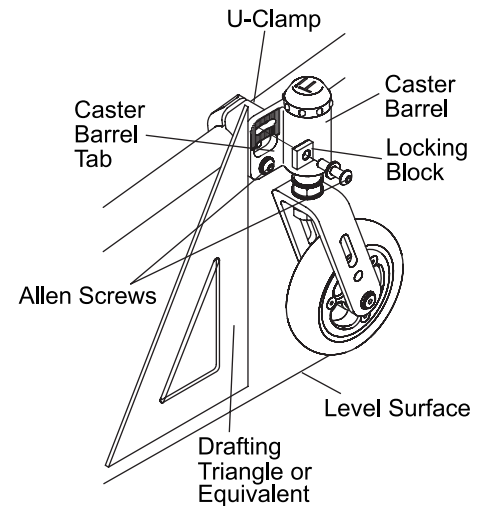
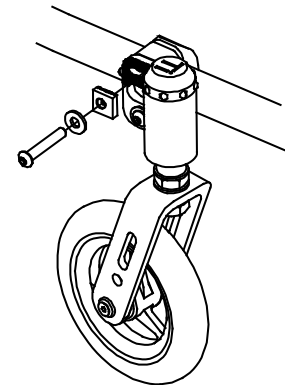

Figure 93
Figure 94
2. Loosen, but do not remove, the two Allen Screws that hold the caster barrel tab in place against the U-Clamp (see Figure 93) or the frame (see Figure 94). **Note:** It is necessary to loosen the top screw more than the lower screw in order to permit the locking block to disengage from the caster barrel tab. See Figures 93 and 94.
3. Using a drafting triangle or similar 90° angle tool as shown in Figures 93 and 94, rotate the caster barrel until the straight edge of the caster barrel tab is perpendicular to the level surface.